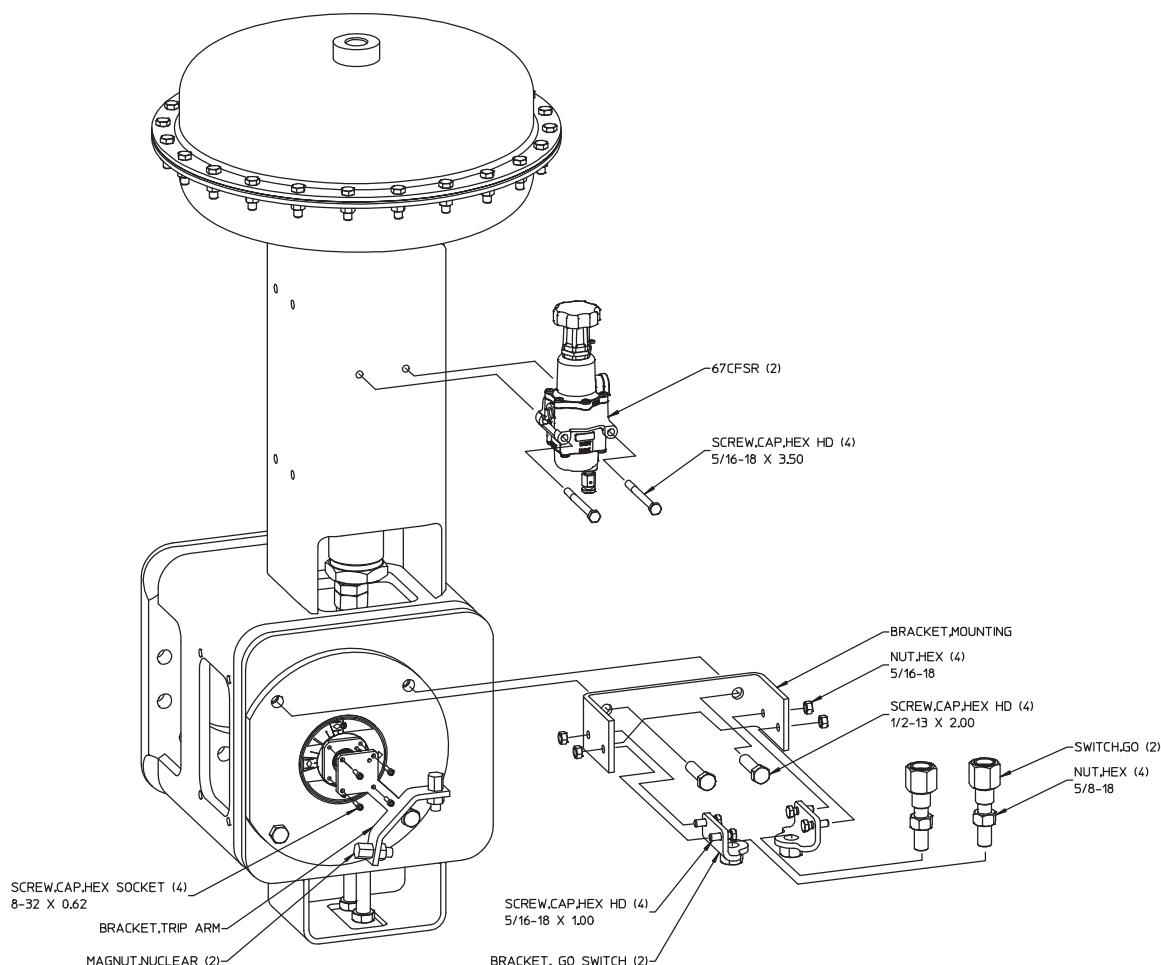

Figure 8. Accessory Mounting – Fisher 67CFSR and GO Switch
1. Coat two 1/2–13 x 2.00 cap screws (key 34) with nuclear grade anti-seize lubricant and bolt the GO switch mounting bracket and actuator cover (key 33) to the actuator box (key 14) as shown in figure 8. Torque to 92 N•m (68 lbf•ft).
2. Apply thread locking adhesive, medium strength, (key 77) to the four 5/16-18 x 1.00 cap screws and bolt the two angle GO switch brackets to the mounting bracket. Torque the 5/16-18 cap screws and nuts to 23 N•m (17 lbf•ft).
3. Apply thread locking adhesive, medium strength, (key 77) to the four 8-32 x 0.62 socket head cap screws (key 38). Install the trip arm and indicator scale (37) to the hub (29). Torque the 8-32 x 0.62 socket head cap screws (key 38) to 3.4 N•m (2.5 lbf•ft [30 lbf-in]) using a 9/64 inch socket wrench.
4. Install the two GO switches and two target magnets. Adjust the components to operate properly from between desired angles of rotation, typically 0 to 80 degrees. The gap between the target magnet and GO switch should be 0.100 inch. Apply thread locking adhesive, medium strength, (key 77) to the target magnet 7/16-20 threads and torque to 47 N•m (35 lbf•ft). Apply thread locking adhesive, medium strength, (key 77) to the GO switch 5/8-18 threads and torque to 47 N•m (35 lbf•ft).